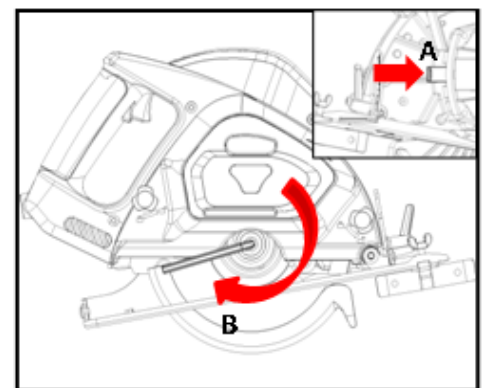

Fig.5
5. Install the outer flange on the blade spindle. Use the shaft lock lever (A) to secure the motor shaft while tightening the shaft screw (B). Fig.5